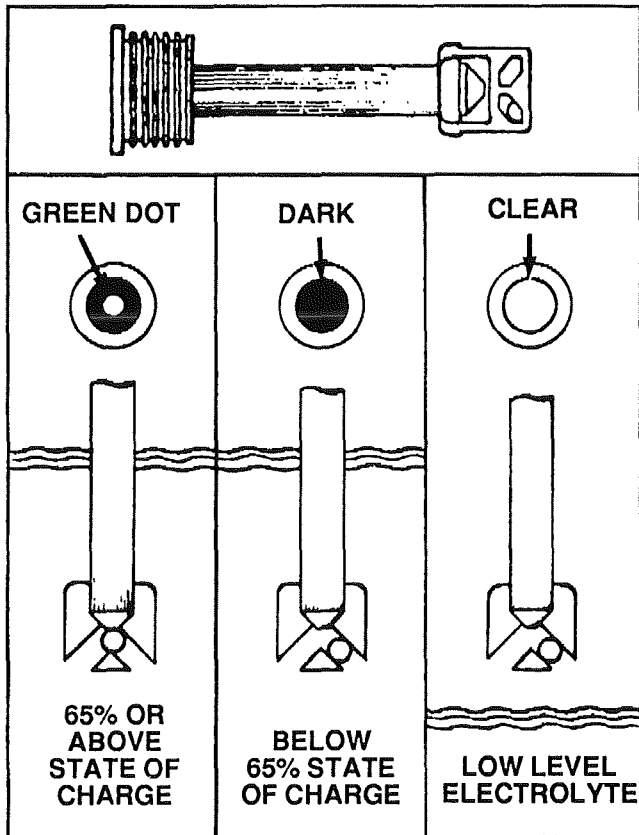

FIG. 13 - Hydrometer operation
2. Check for loose terminal posts, cable connections, damaged cables, and for evidence of corrosion; correct conditions as required before proceeding with tests (see fig. 13).